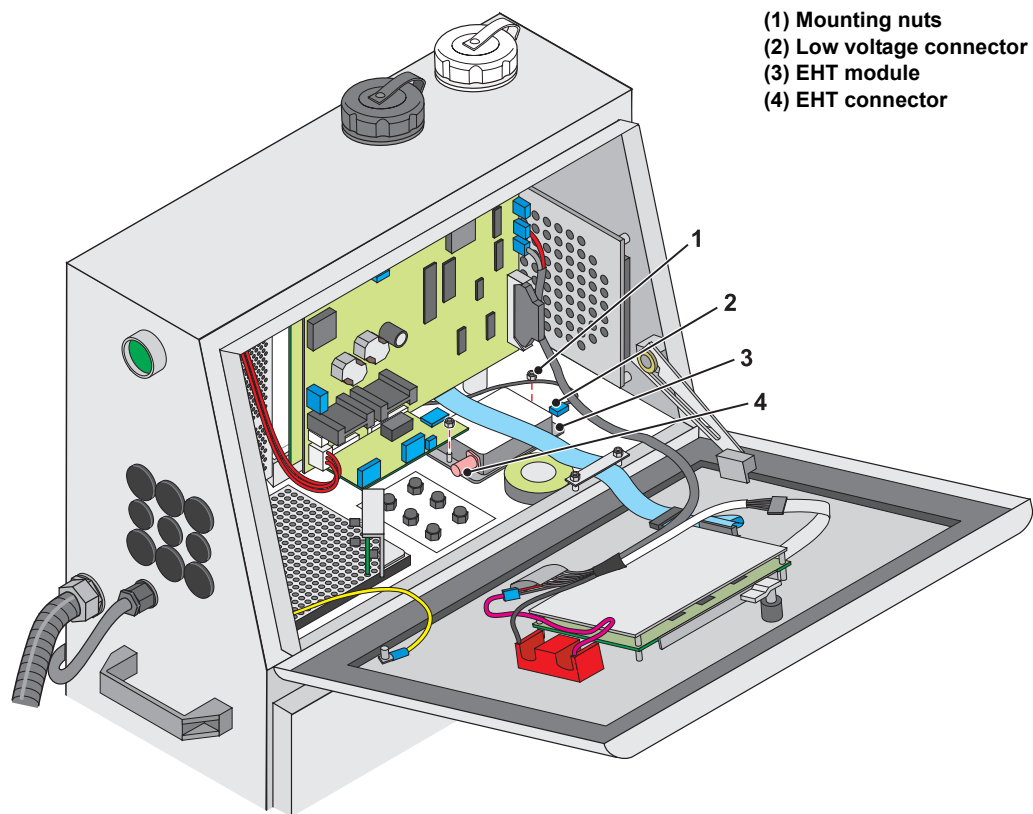

Figure 8-20. EHT Module Removal
- 2 Remove the two nuts (Item 1 in Figure 8-20) securing the EHT module (3) to the compartment floor.
- 3 Remove the EHT connector (4) from the EHT module.
- 4 Lift the EHT module clear of the printer housing and disconnect the low voltage connector (2).